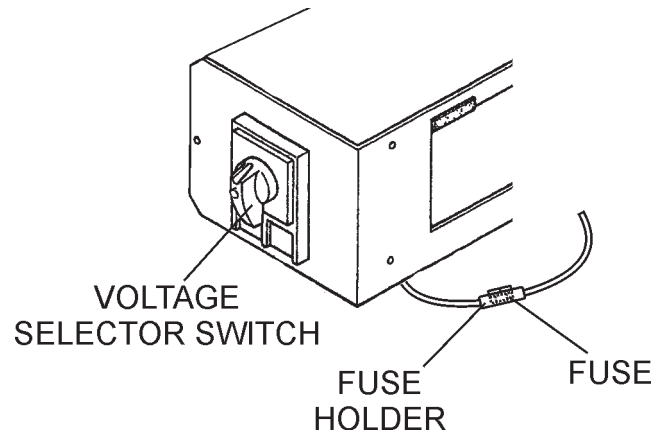

Figure 15. Blower Fan Fuse
This unit has an intake fan located at the rear of the machine to draw outside air into the cabinet to cool the engine. The fan has a 10 amp AC fuse located beneath the **Voltage Selector Switch** (Figure 15).
A wide range of voltages are available to supply voltage for many different applications. Voltages are selected by using the **voltage selector** switch (Figure 15). To obtain some of the voltages as listed in Table 7 (see below) will require a fine adjustment using the **voltage regulator (VR) control knob** located on the control panel.